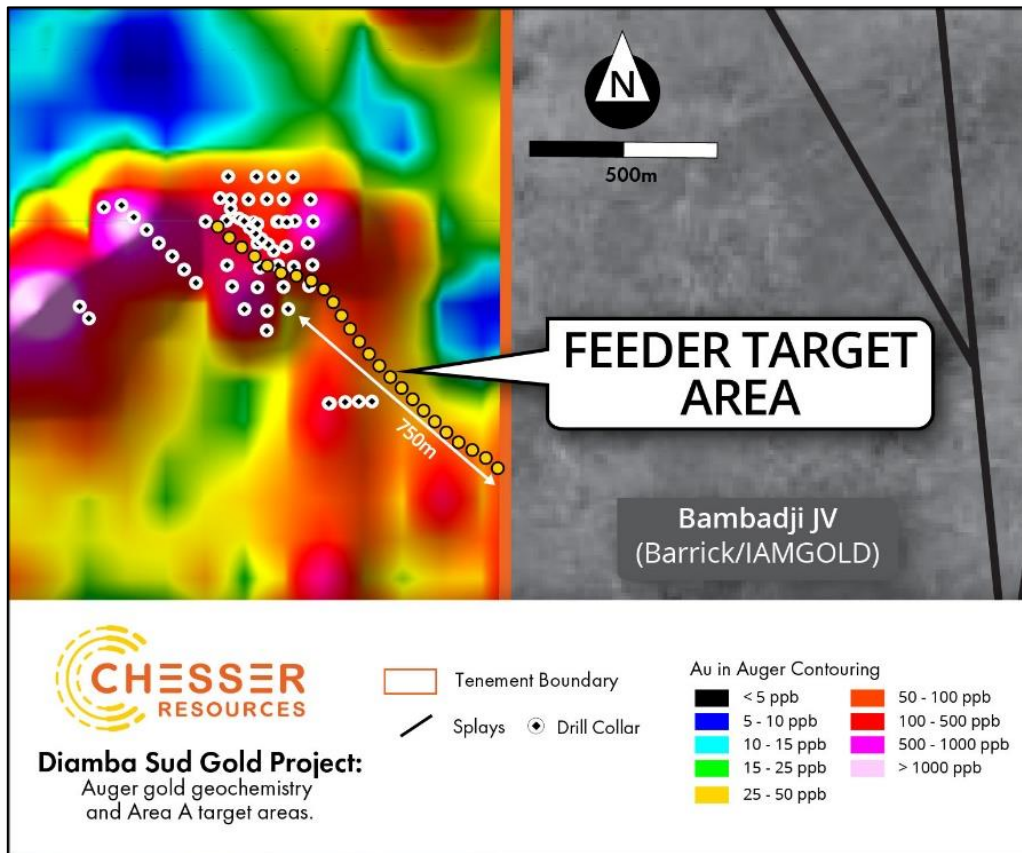

Figure 5b: Area A target area for feeder structure with gold in auger geochemical anomaly up against Barrick/IAMGOLD's Bambadji JV.
- The feeder structure along strike to the southeast (approx. 750m until tenement boundary with Barrick/IAMGOLD JV) and where it intersects favourable lithologies. Significant potential remains to extend the gold mineralisation at Area A as well as the auger anomalies to the west of it towards Area D (Figure 5b).